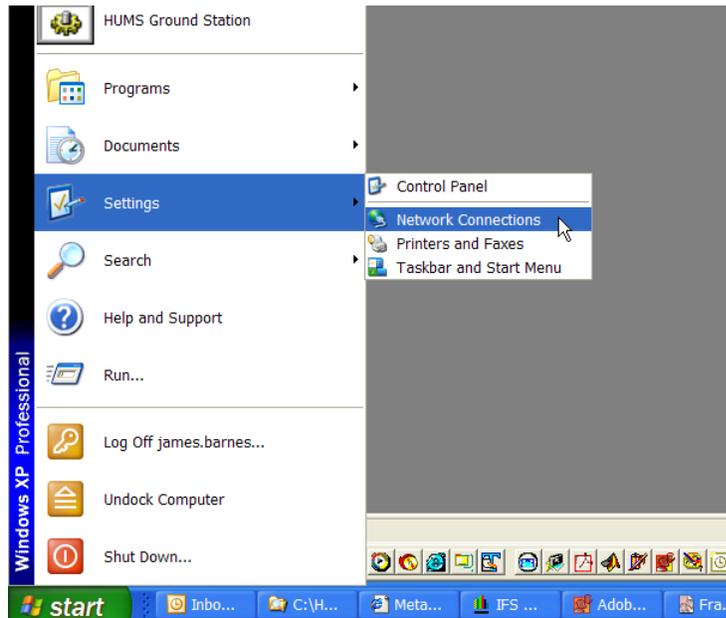

Figure 4. Navigating To Network Connections
- (2) Turn the host PC **ON**.
- (3) From the host PC desktop, select **Start>Settings>Network Connections** (Figure 4).